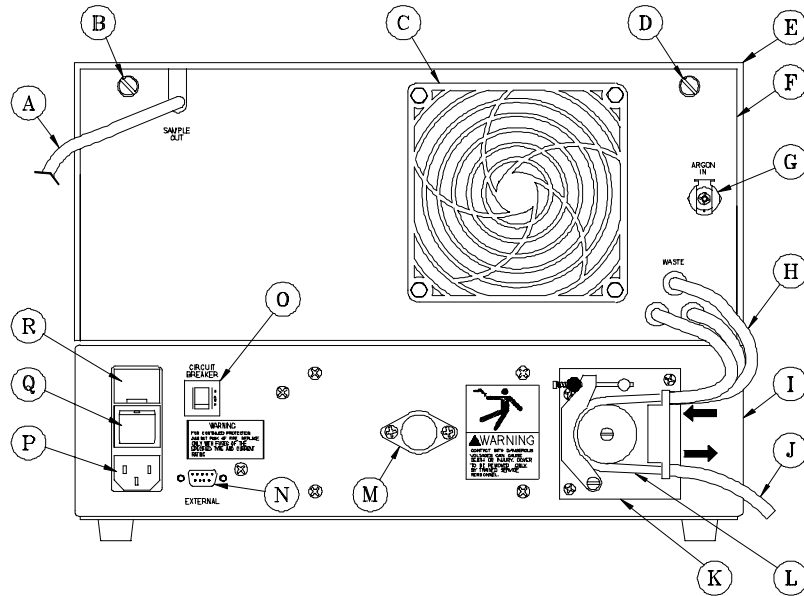

Figure 1-2. U-5000AT⁺ Design—Back View.
The following components are located on the back of the U-5000AT⁺ Ultrasonic Nebulizer. Each lettered item corresponds with a callout in Figure 1-2.
- 1 Connect the length of 1/8" I.D. Tygon tubing to the outlet of the fittings from the pump (K), (Figure 1-2).**